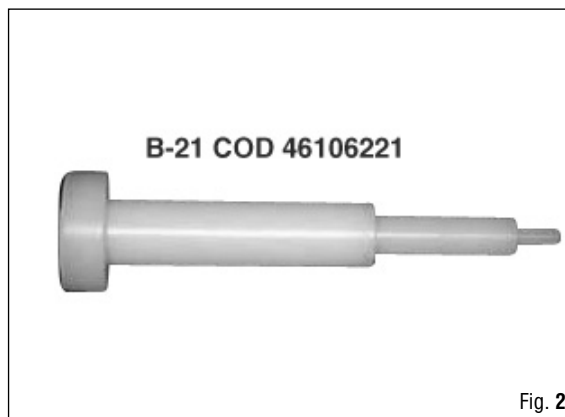

Fig. 2
5. Position the special tool B-21 on the first stage poppet seat (75) (Fig. 2), pressing on it gently. Introduce compressed air (about 10 bar) into a low-pressure port. When the compressed air causes the poppet seat to move, reduce the pressure exerted on the special tool (B-21).